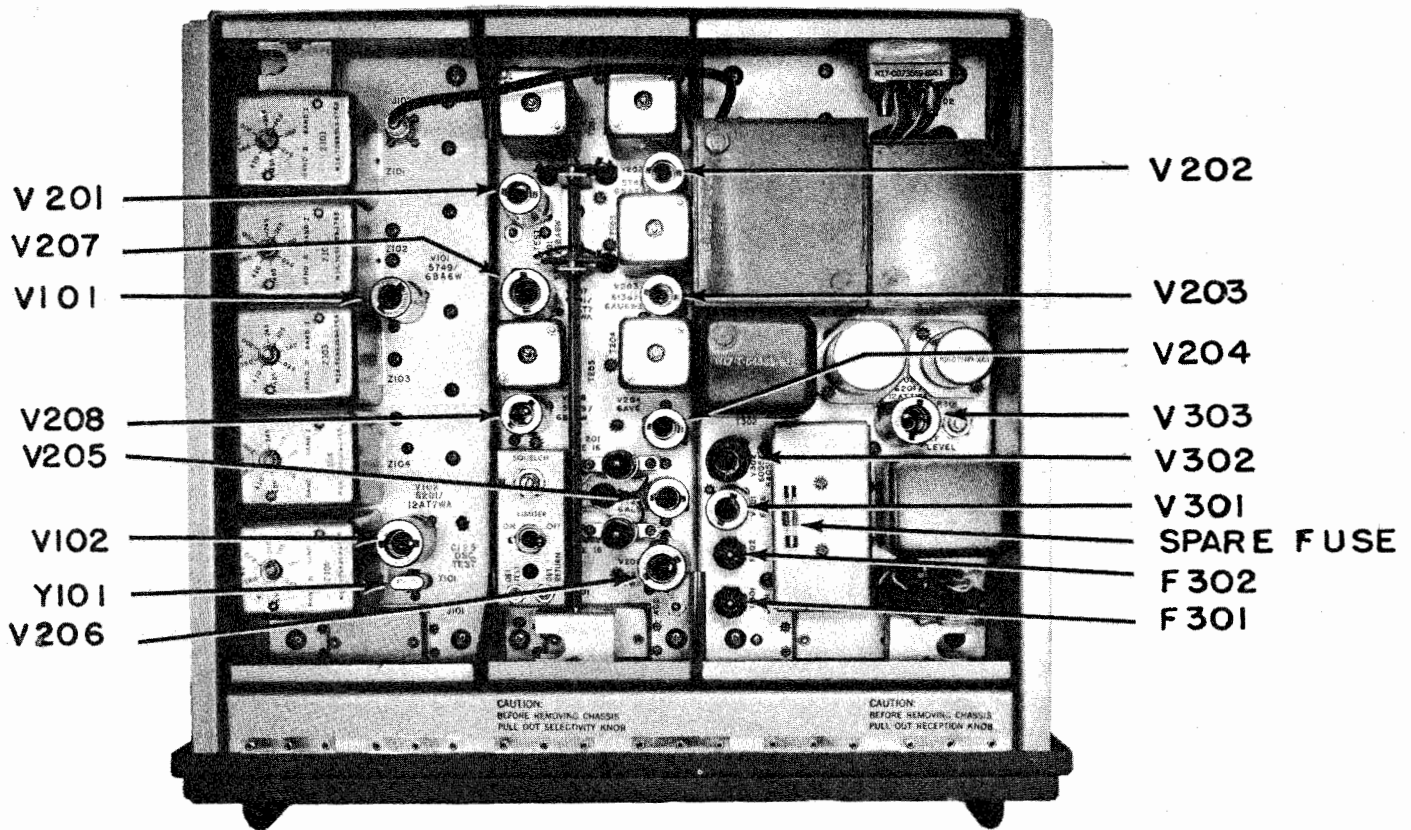

Figure 5-1. Photo—Top View of the Unit out of the Case Showing Crystals, Fuses and Tubes
b. FUSE INFORMATION.—Two 1-ampere, type 3AG, slow-blow glass cartridge fuses located on the top of the Audio/Power Supply sub-chassis as indicated in figure 5-1, are the only fuses used in Radio Receiver AN/FRR-30. These fuses protect the 105, 115, 125 volt, 50-60 cycle primary circuit. Access to the fuses is obtained by unscrewing the four fasteners in the corners of the front panel, and pulling the entire unit out of the case until the side latches prevent further movement. The fuses are removed by pushing down on the fuse holder head, then twisting it approximately one-quarter turn in a counterclockwise direction. The fuse holder head, with the fuse attached may now be lifted up. Condition of the fuse may be determined by observing through the glass casing whether the fuse link has been broken or melted. Always replace a bad fuse with one of exactly the same rating and type and, before replacing, check the cables and the set visually to make certain that no obvious faults exist. The description of the fuses is given in table 8-2 under F301.
A spare fuse is mounted in a clip next to the audio output transformer on the Audio/Power Supply subchassis, as indicated in figure 5-1. Additional spare fuses should be kept at hand for replacement use. If the fuse F301 and/or F302 blow following a replacement, check wiring and connections for obvious shorts. If no shorts are apparent, further servicing must be entrusted to qualified maintenance personnel.
c. ELECTRON TUBE INFORMATION.—The full complement of electron tubes used in the AN/FRR-30 is given in table 1-4. These tubes are all located on the three chassis assembly units as indicated in figure 5-1.
a. TUBE DATA.—The full complement of electron tubes used in Radio Receiver AN/FRR-30 is given in table 1-4. These tubes are all located on either the RF, IF, or Audio/Power Supply chassis assemblies of the receiver. Their locations on these individual chassis are shown in figure 5-1.